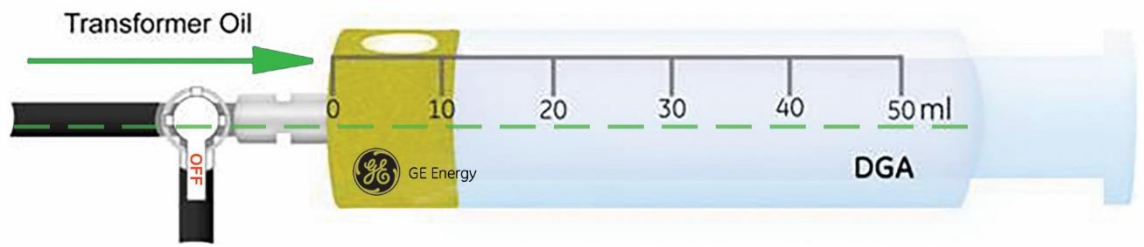

Figure 6-2: Oil flows into the syringe
3. Turn the syringe valve to the position where oil can be drawn into the syringe as shown in Figure 6-2.